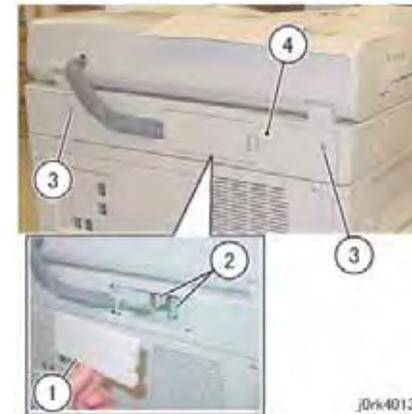

Figure 1 IIT Rear Cover Removal
2. Remove the IIT Rear Cover (Figure 1)